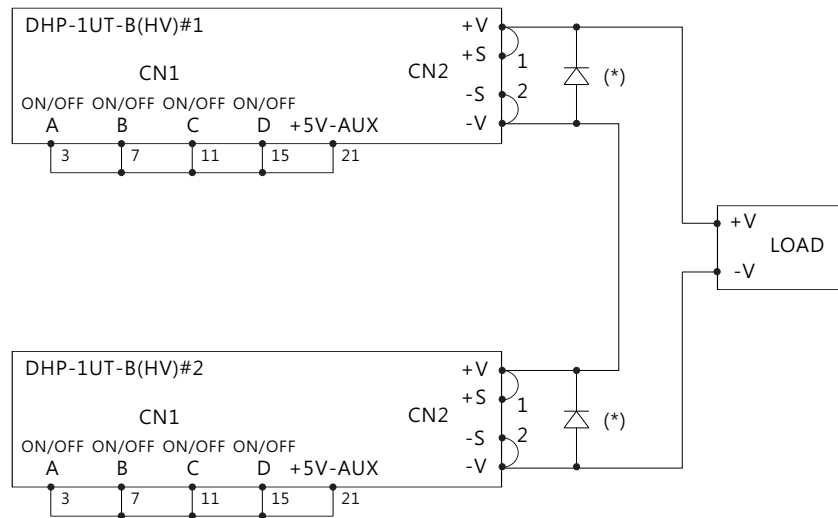

Figure 5-11 Configuration of rack shelf units in series
- The rack shelves connected in series should have the identical rack supplies. Please refer to Figure 5-11 for wiring configuration.
- It is suggested that add external diodes (*) on the output, shown in Figure 5-11, to prevent reverse voltage. Rating of these diodes should be higher than the total amount of output voltage and current.